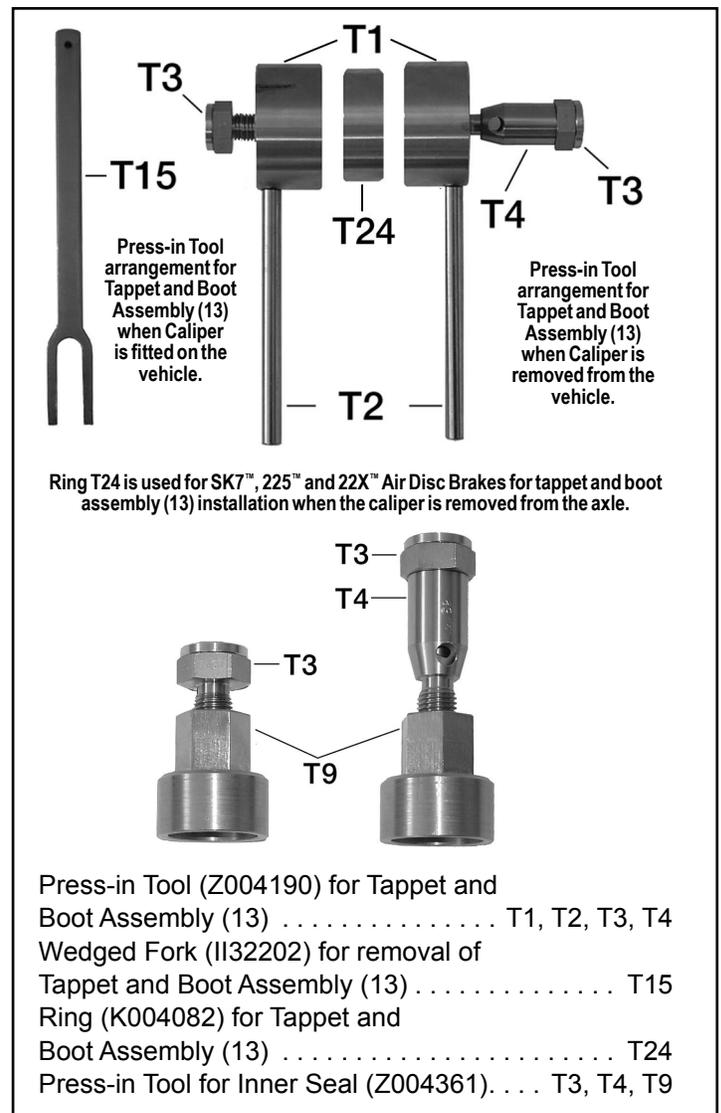

FIGURE 2 - TOOLS
Position the replacement inner seal over the threaded tube (16). See Figure 2 for tools used in this installation.